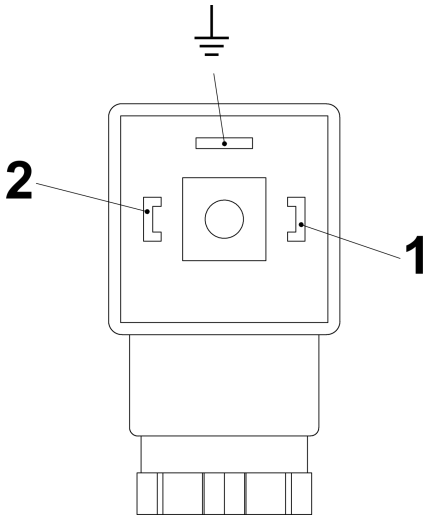
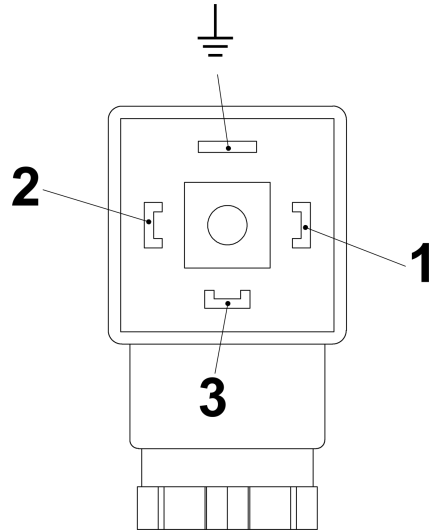

Fig. 26: Pin assignment, plug socket, normally-open contact (SG-30 with connector in compliance with EN175301-803)
Fig. 27: Pin assignment, plug socket, change over contact (SG-30 with connector in compliance with EN175301-803)
6. ➤ Make the connections as shown in the connecting diagram (Fig. 26 und Fig. 27)